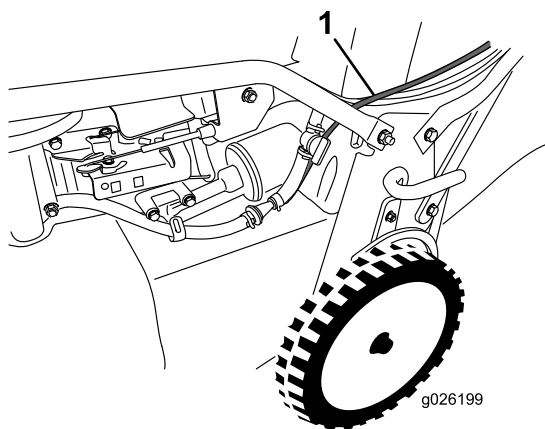

Figure 4
9. Route the cable upward along the left side of the handle as shown in Figure 4.